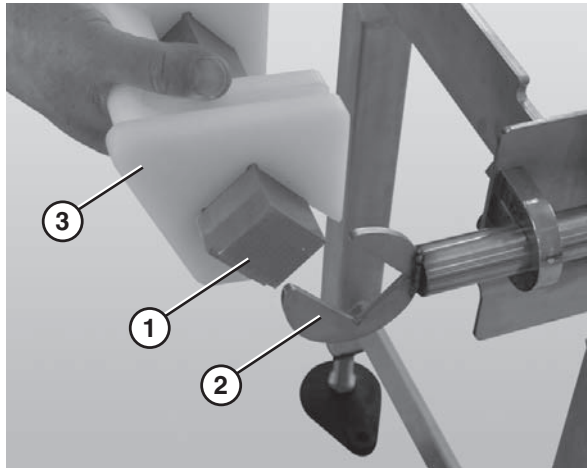

**Figure 62**
3. Remove pinch guard (**Figure 62, item 1**) from idler shaft (**Figure 62, item 2**) and pinch guard shaft (**Figure 62, item 3**).
4. Slide the pucks (**Figure 62, item 4**) and alignment bar (**Figure 62, item 5**) off the idler shaft (**Figure 62, item 2**).